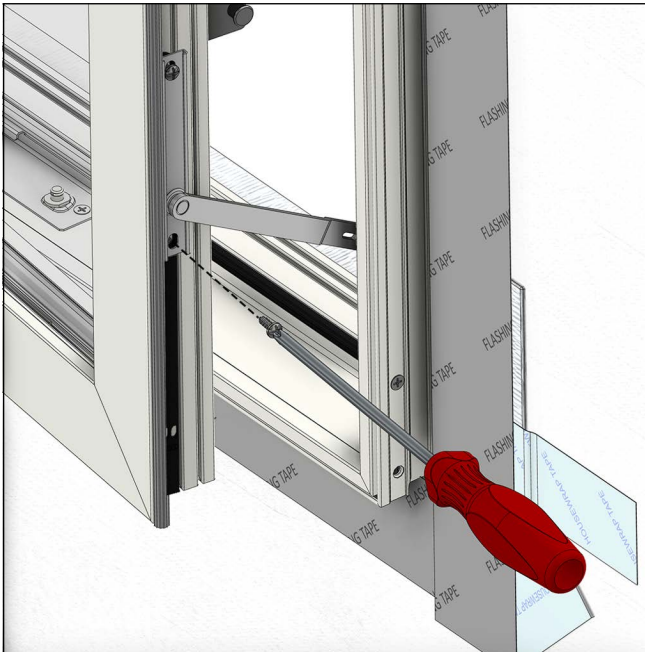

Figure 13 Installing Bottom Screw
6. Attach the bottom screw to the sash with the #8 x 11/16" T20 torx tamper-proof PH type AB screw provided. Use a screwdriver or drill to tighten. DO NOT OVERTIGHTEN! See Figure 13.